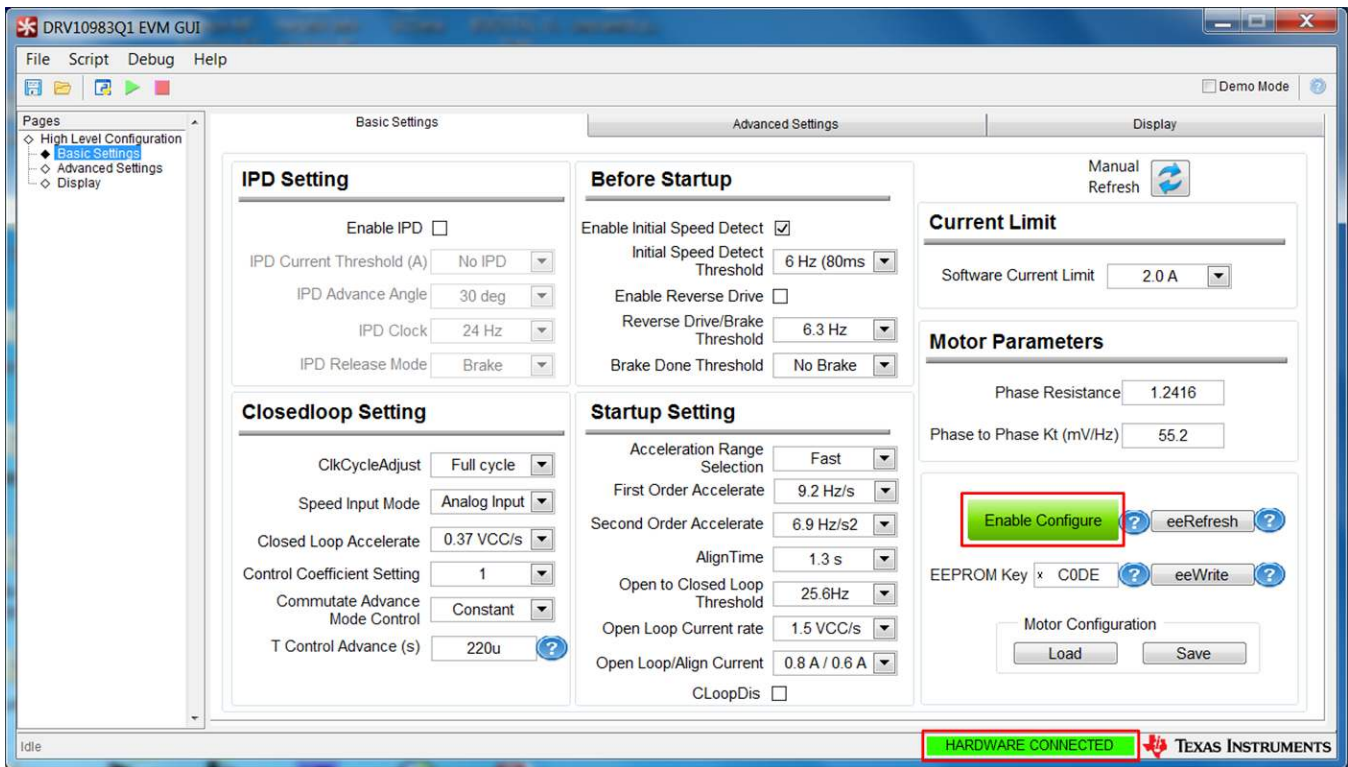

Figure 11. Enable Configure
- If the *Retry* button was selected, the GUI displays the screen as shown in Figure 11 directly after step 10.
Step 11. The status bar displays *HARDWARE CONNECTED* and the bar turns green, indicating that the GUI is communicating with the device. Click the *Enable Configure* to change this button from the red to green (see Figure 11).